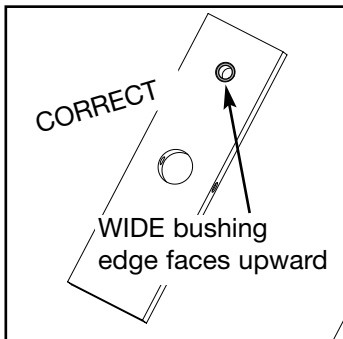

Figure 3A
- K. With an assistant, carefully install each weight plate one at a time. **NOTE:** *Install weight plates in reverse order as removed in step 7M. NOTE: When installing weight plates, position plates so wide edges of bushings face upward and narrow edges of bushings face downward. See Figures 3A and 3B.*
- I. With an assistant, carefully install each weight plate one at a time. **NOTE:** See Figure 3A for proper positioning of weight plates.